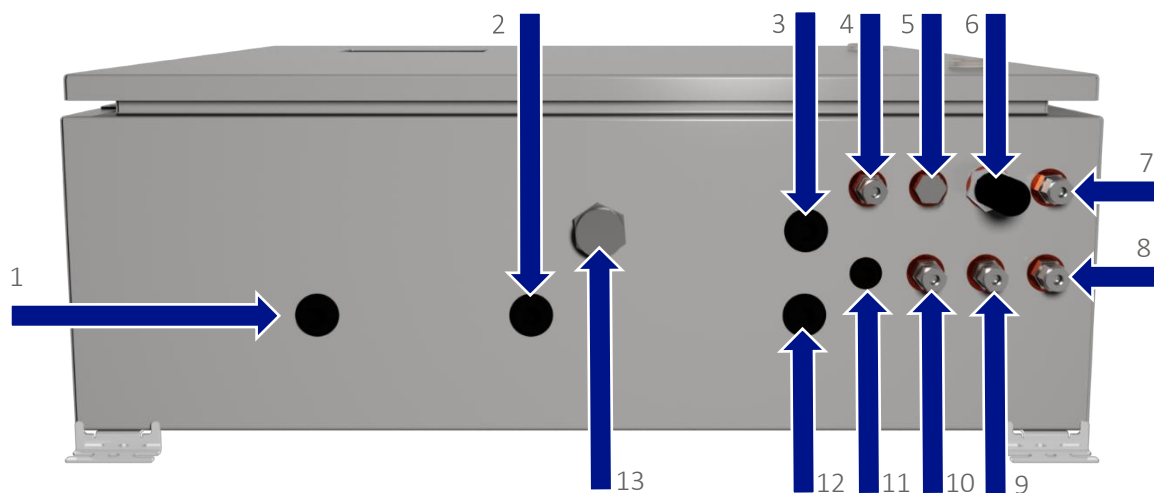
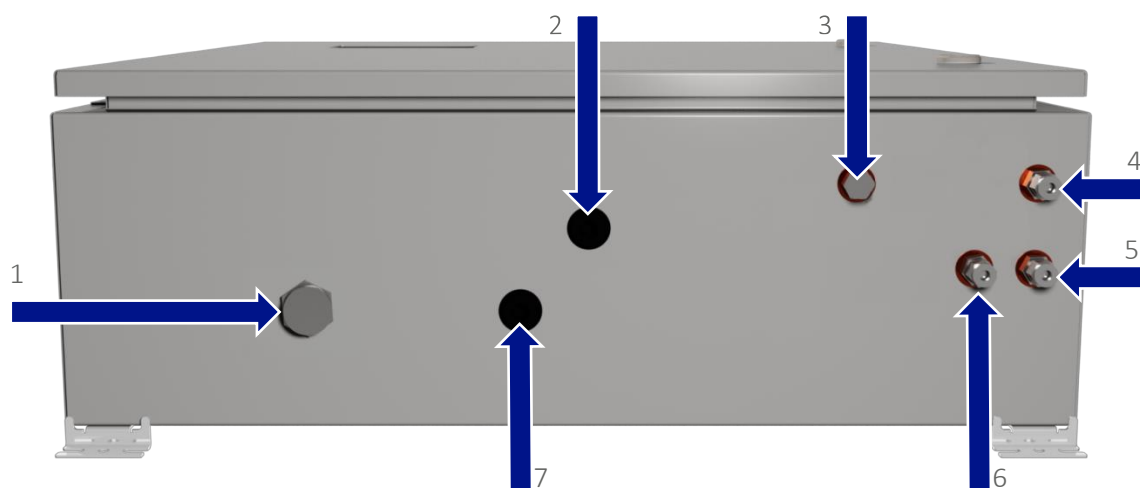

Figure 5 - BIOMETHANE 3000 customer connections
Figure 6 – Auto-calibration customer connections
- Compression fittings – found on the bulkheads on the enclosure base (see annotations 4, 5, and 7-11 on Figure 5 - BIOMETHANE 3000 customer connections and annotation 4-6 on Figure 6 – Auto-calibration customer connections).
There is an enclosure breather fitted to the BIOMETHANE 3000 situated at the base of the enclosure (see annotation 13 on Figure 5 - BIOMETHANE 3000 customer connections). It is the user's responsibility to ensure that there is a free circulation of air around the cabinet.
There are two enclosure breathers fitted to the auto-calibration system, situated at the base of the enclosure (see annotation 1 on Figure 6 – Auto-calibration customer connections) and the right hand side of the enclosure. It is the user's responsibility to ensure that there is a free circulation of air around the cabinet.
The installation will require the operator to connect a mains cable, output cable, relay cable, pressure transducer cable, drain, and gas pipes to the equipment. Figure 5 - BIOMETHANE 3000 customer connections identifies the available connection points on the BIOMETHANE 3000:
- The sample tube should be connected to the bulkhead connector labelled 'SAMPLE GAS 1' – see annotation 4 on Figure 5 - BIOMETHANE 3000 customer connections.
- The gas exhaust line should be connected to the bulkhead connector labelled 'PROCESS RETURN' – see annotation 7 on Figure 5 - BIOMETHANE 3000 customer connections.
- The sample tube should be connected to the bulkhead connector labelled 'AUTO-CAL IN' – see annotation 10 on Figure 5 - BIOMETHANE 3000 customer connections.
If uncontaminated air cannot be guaranteed at the location of the analyzer, the particulate filter should be removed and a pipe should be connected in its place and terminated at a point where uncontaminated air is present. The sample tube should be connected to the bulkhead connector labelled 'AIR IN' – see annotation 6 on Figure 5 - BIOMETHANE 3000 customer connections.
- The sample tube should be connected to the bulkhead connector labelled 'VENT TO ATMOSPHERE' – see annotation 9 on Figure 5 - BIOMETHANE 3000 customer connections.
- The drain line should be connected to the bulkhead connector labelled 'DRAIN' – see annotation 8 on Figure 5 - BIOMETHANE 3000 customer connections.
- The gas line will need routing from the gas bottle regulator to the auto-calibration system, connected to the bulkhead connector labelled 'CALIBRATION GAS IN' – see annotation 3 on Figure 6 – Auto-calibration customer connections.
- The gas line will need connecting to the bulkhead connector labelled 'CALIBRATION GAS OUT' – see annotations 6 on Figure 6 – Auto-calibration customer connections.